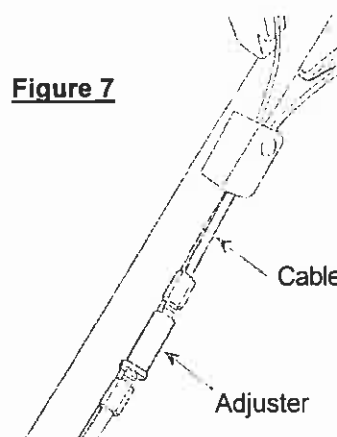

Figure 7
- Lengthen the cable adjuster by unscrewing it a couple of turns. (Figure 7)